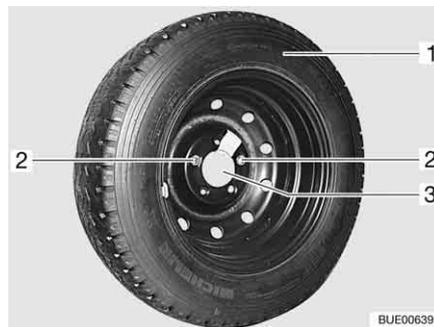

Fig. 312 Spare wheel support in the rear garage
- Loosen and remove both fixing screws (Fig. 312,2) with the on-board tool set.
- Remove the spare wheel (Fig. 312,1) from the support (Fig. 312,3).